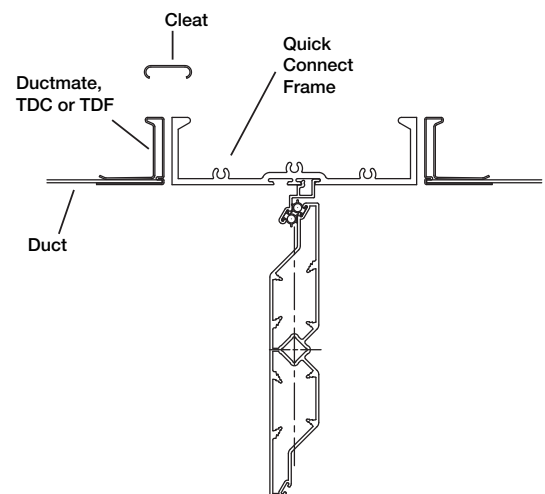

Figure 6
- 4) Install the metal cleat (Figure 6) or #10 TEK screw with the following recommend spacing: